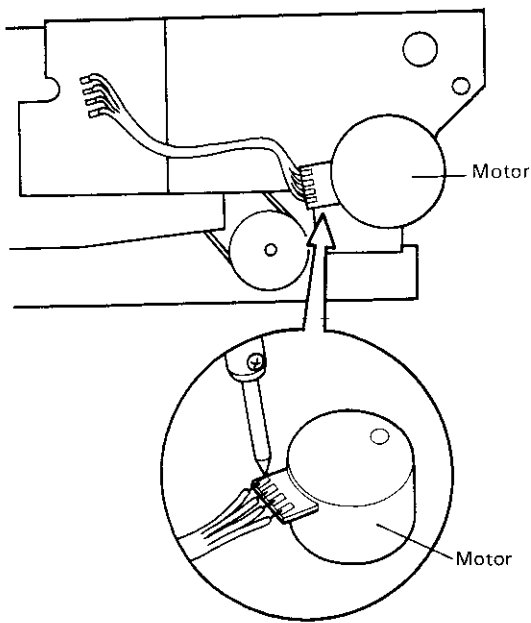

Fig. 13-5 Removal of motor lead wires
2. Remove the lead wires of the motor from motor. (See Fig 13-5)